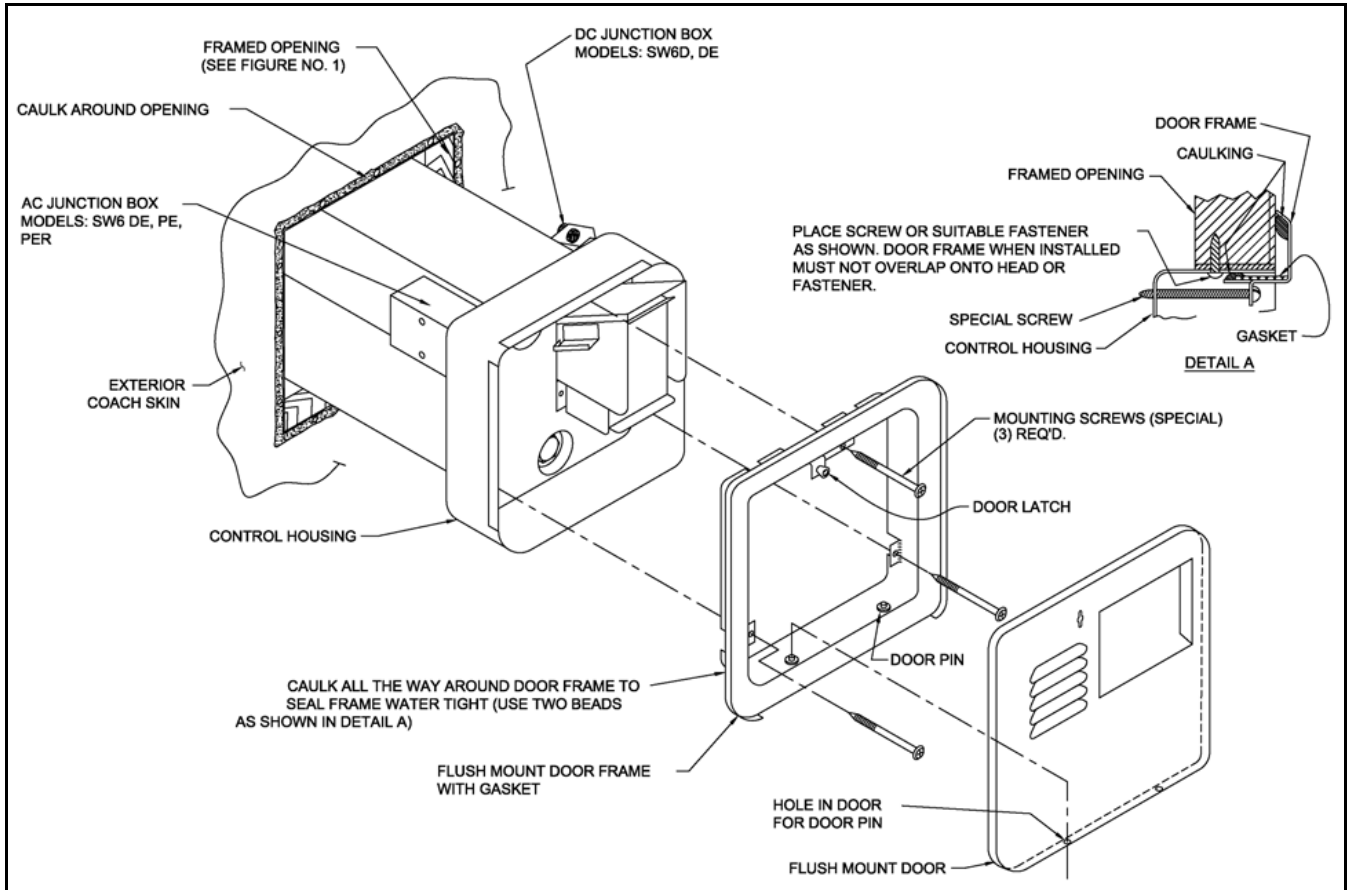

Figure 2
INSTALLATION USING FLUSH MOUNT FRAME & DOOR (See Figure 2 for Illustration)
- B. Refer to Figure 2 for location of D.C. junction box on models SW6D and SW6DE. Refer to Figure 5 and 6 for location of D.C. junction box on models SW6DM and SW6DEM.
- B. Refer to Figure 2 for location of A.C. junction box on model SW6DE. Refer to Figure 6 for A.C. junction box on model SW6DEM.